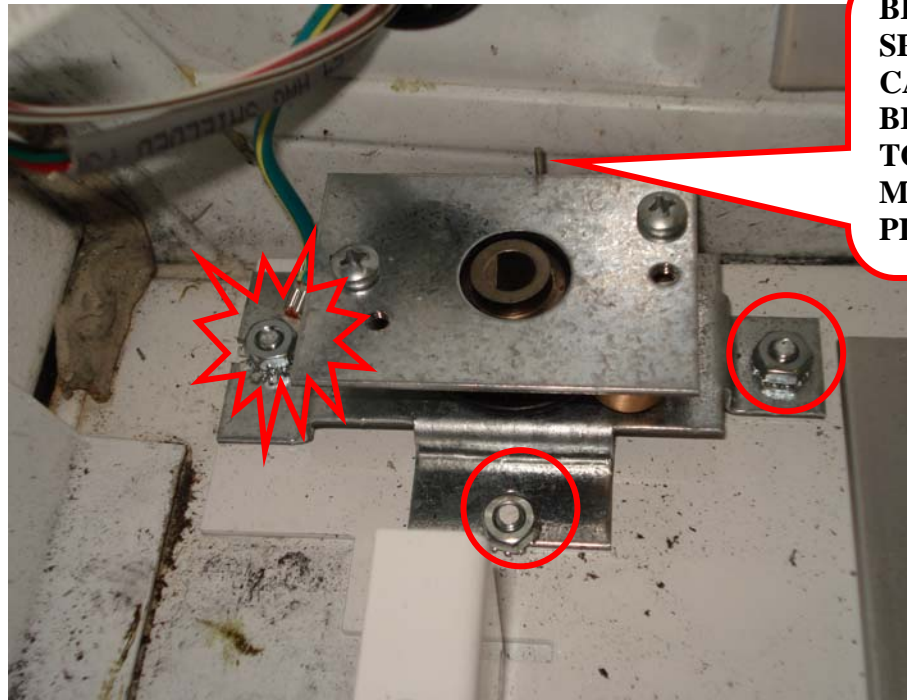

Figure 6
6. Install the new X drive assembly with the tensioner using the three 11/32 nuts. Make certain the ground wire is reinstated under the nut as shown in figure 6.